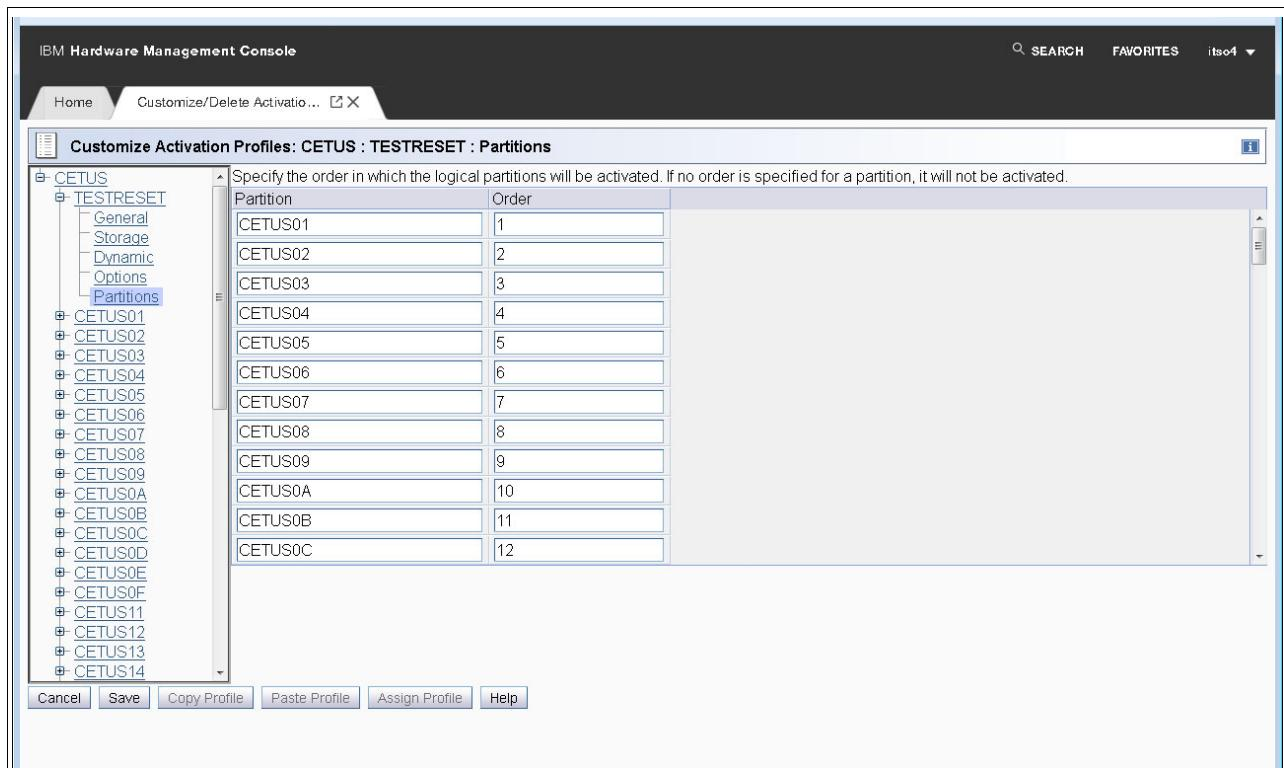

Figure 5-21 Reset and Image profile list: Updating the partition list
2. After you make your determinations, click **Save** (Figure 5-21).